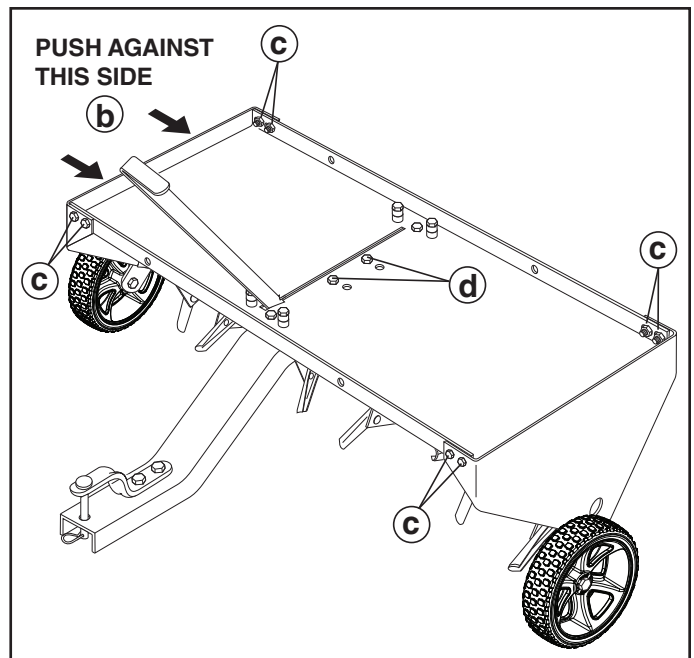

FIGURE 12
17. Perform the following steps in sequence to assure secure locking of the lift handle. Refer to figure 12.